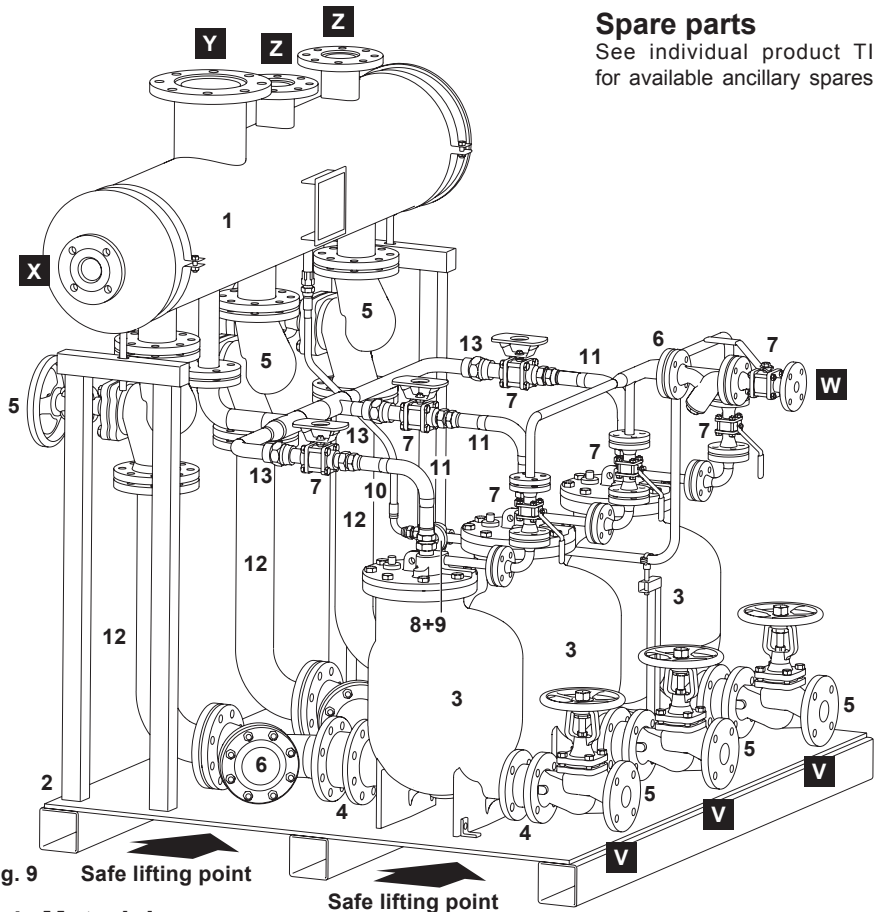

Fig. 9 Safe lifting point
Important note: Please acknowledge the safe lifting points indicated on Figure 9.
2. Connect the condensate outlets (V) of the MFP14-PPU to the condensate return line - See Figure 9.
3. Connect the condensate inlets (Z) to the process/equipment being drained.
4. Connect a 'U' bend water seal to the overflow point (X) and ensure that it is connected to a safe discharge point. Ensure a suitable amount of water is filled into the 'U' bend before commissioning the PPU. The 'U' bend water seal, during normal operation, is self-filling and prevents 'flash steam' discharging from the overflow. It is recommended the 'U' bend is at least 305 mm (12") deep. **Always connect the overflow to a safe discharge point.**
5. Connect the operating medium (steam) to the motive supply inlet (W).